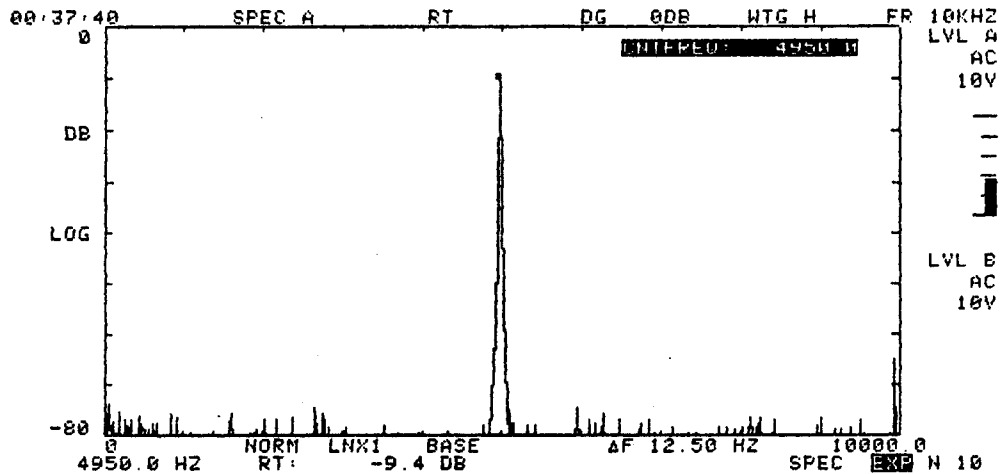

Figure 3-FRNT-17. CF Button Display Example
Press the CF button. A numerical entry control field will appear in the upper right corner of the display grid as shown in Figure 3-FRNT-17. There will already be a numerical value present. This value is the Data Cursor position. If the Data Cursor is already positioned at the desired Center Frequency, pressing the ENT button will assign the value of the Data Cursor position as the Center Frequency. If you want to enter a value other than the Data Cursor position, a Center Frequency value can be entered using the numbered buttons on the keypad and then pressing the ENT button. Existing numerical values can be cleared or recalled using the CLR and RCL buttons while the CF control field is on the display.
Press the AVG # button. A numerical entry Control Field will appear in the upper right corner of the display grid as shown in Figure 3-FRNT-18. There will already be a numerical value present. This value is the last value entered by the operator or the instrument default value (10). New values can be entered using the numbered buttons on the keypad and then pressing the ENT button. Existing numerical values can be cleared or recalled using the CLR and RCL buttons while the AVG # Control Field is on the display.
The example shown in Figure 3-FRNT-18 says "AVG N" indicating that Average Target Count (number of ensembles to be averaged) is selected. Values from 1 to 999 can be entered for AVG N. If Average Target Time (Average Time in seconds) is selected, the AVG # Control Field will say "AVG T." Values from 1 to 2000 can be entered for AVG T. Selection between AVG N and AVG T can be accomplished using the "AVERAGE TARGET COUNT" and "AVERAGE TARGET TIME" numerical entry Control Field located on Setup Page 1 or by direct access via the Control Field and Control Menu shown in Figure 3-FRNT-19.